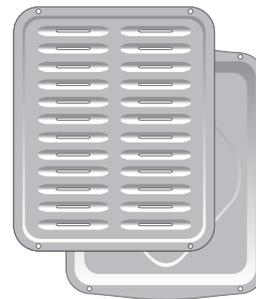

Figure 14: Broil pan and insert
6. Place the broiler pan and insert on the oven rack. Broil with oven door closed all the way (Figure 14).